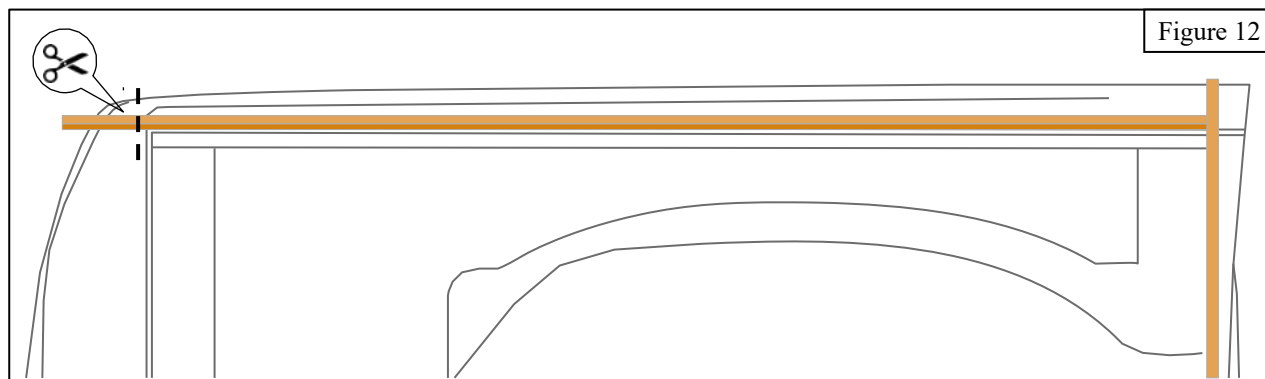

Figure 13
4. Measure approximately 4" (100 mm) from the side of the bed, and 3 1/4" (85mm) up from the base of the bed. This will be done on both sides of the bed. Use the included 19MM Hole Saw (**Item 39**) to cut the front drain tube holes. The holes will be drilled into the raised vertical ribs at the front of the bed. See **Figure 13**.